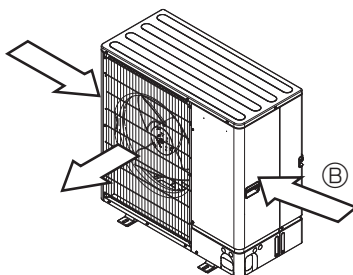

Fig. 2-23
- ③ Position the unit so that the air outlet blows perpendicularly to the seasonal wind direction, if possible. (Fig. 2-23)